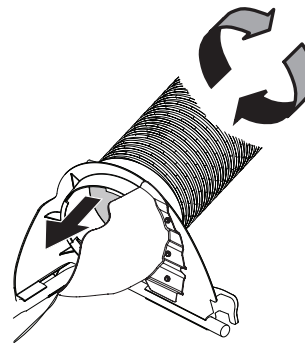

Figure 23
1. Thread the upper end of the hose (764-05082) securely into the upper chute support. There are two tabs on the lower inside part of the upper chute support to allow for secure threading. See Figure 23.